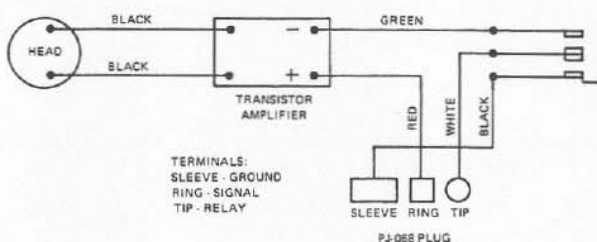
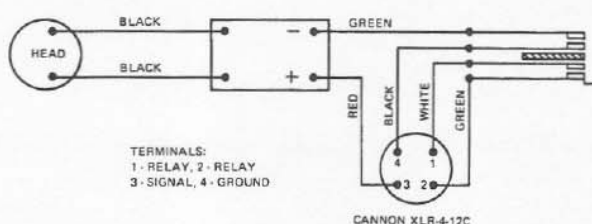

FIGURE 1 - Wiring Diagram (603-2107)
FIGURE 2 - Wiring Diagram (603-2342)
8. Test Procedure (See Figure 1 or Figure 2)